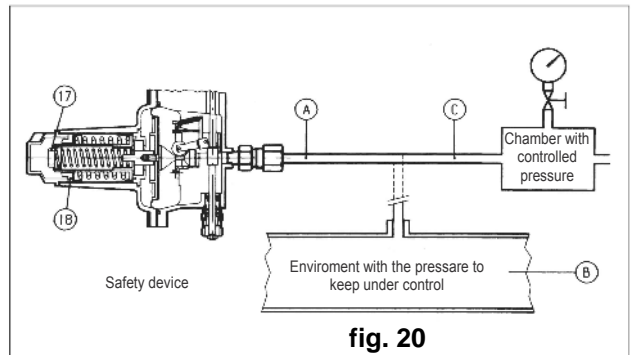

fig. 20
- B) On devices without the "push" valve (fig. 20) we recommend connecting the control head separately to a controlled auxiliary pressure and repeating the operations described above
B) On devices without the "push" valve (fig. 20) we recommend connecting the control head separately to a controlled auxiliary pressure and repeating the operations described above.